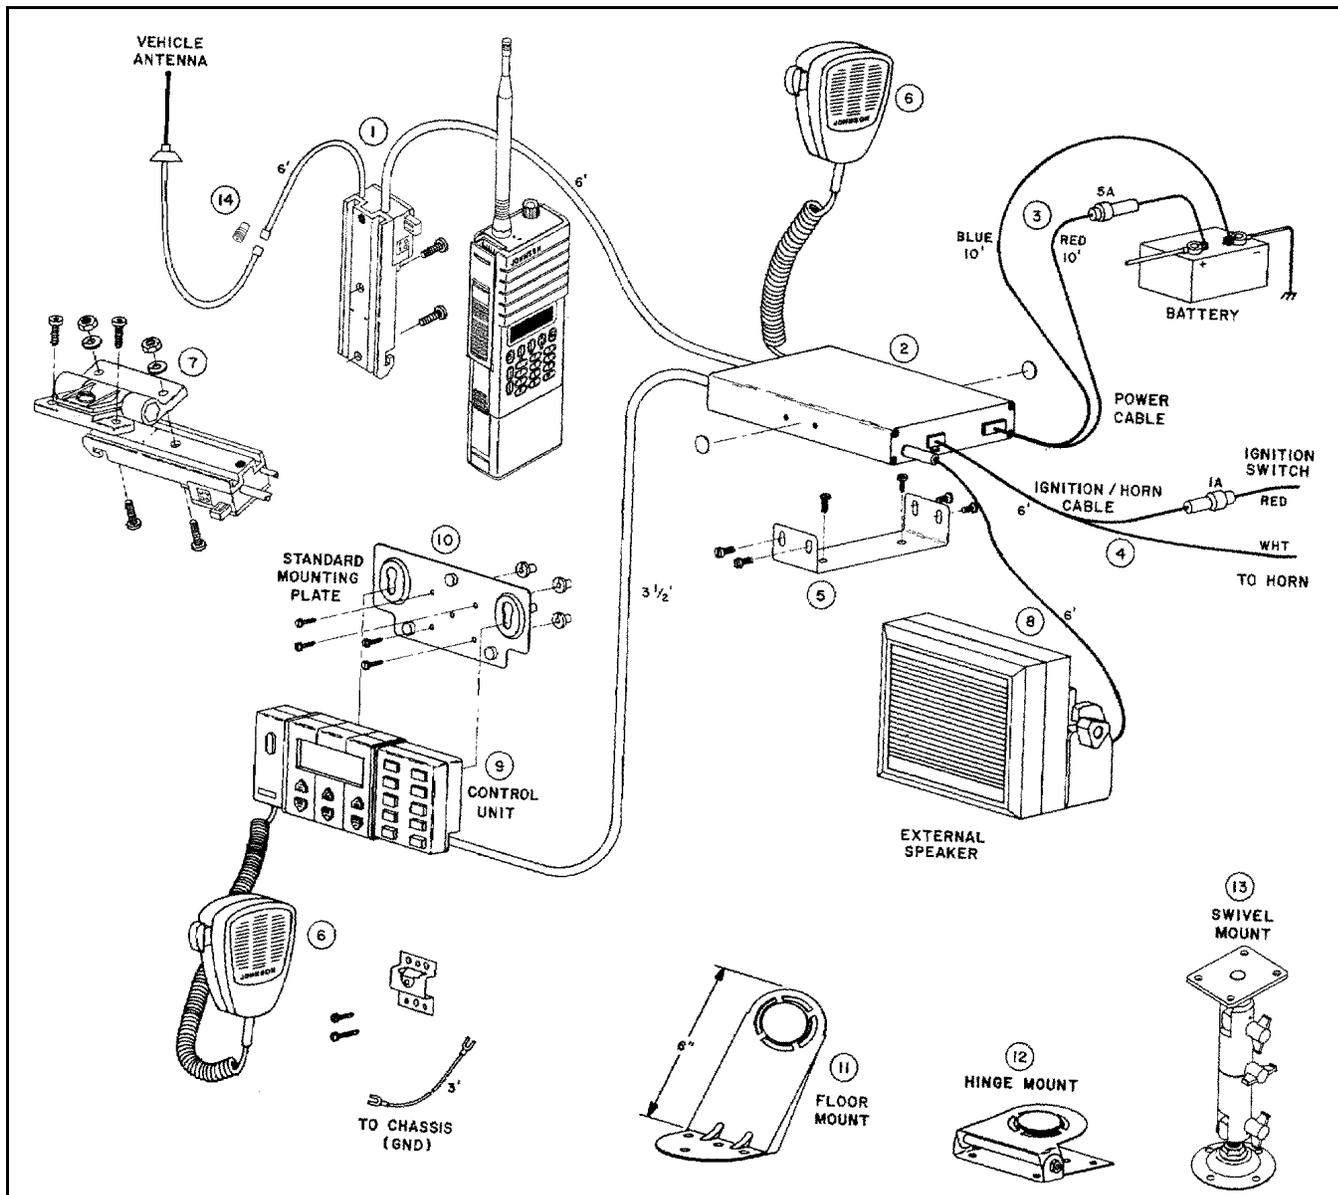

Figure 5-3 Vehicular Adapter Components
The components required for installation are shown in Figure 5-3. The part numbers of the components identified by item number are shown in Table 5-5. Vehicular Adapter Assembly, Part No. 239-5810-500, includes items 1-5 and also the required mounting hardware such as screws and a microphone hanger. The -545 hinge mount is used if the adapter must be tilted from the mounting surface. The -550 interface connector has a female BNC connector for interfacing with the vehicle antenna.